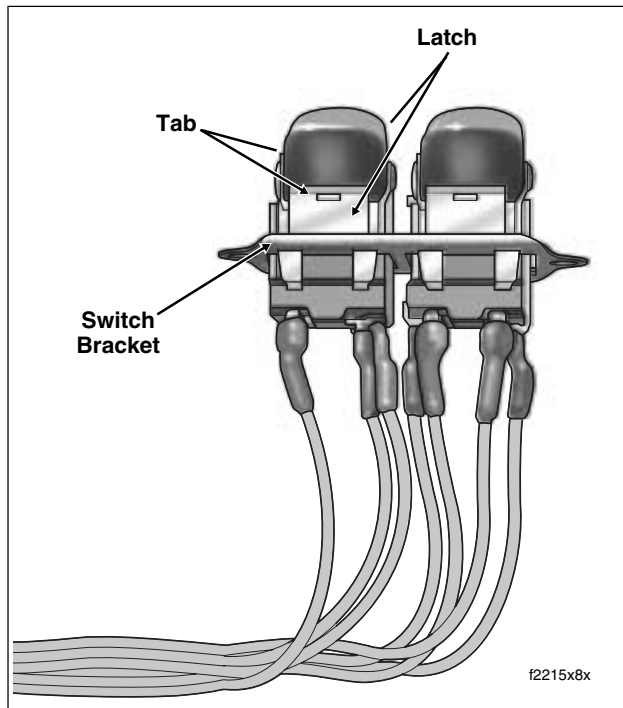

Figure 8-80. Bend Latches Outward to Release Tabs
- f. Carefully pry two latches on bracket outward to release tabs on switch. Remove switch from bracket. See Figure 8-80.
- a. Place **new** switch into position in bracket. Engaging tabs on switch in slots of latches, gently bend tabs upward to lock position of switch in bracket. See Figure 8-80.